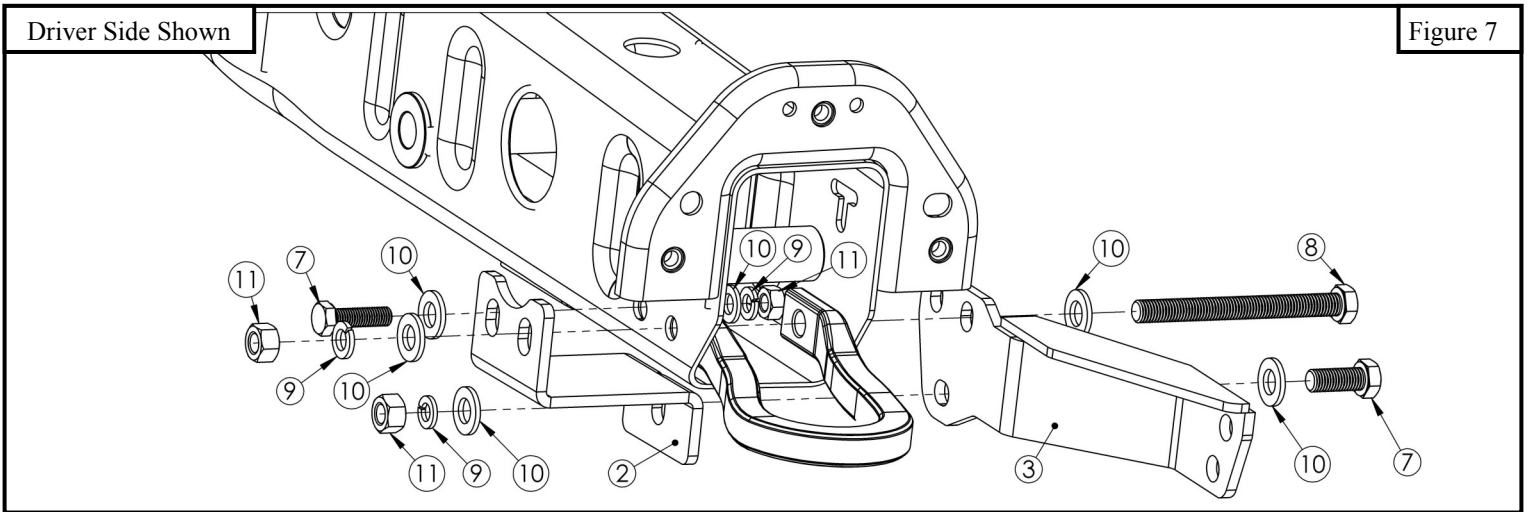

Figure 7
7. Locate (1) Lower Mounting Bracket (Item 3/4) and (1) Lower Support Bracket (Item 2). Loosely attach the Lower Mounting Bracket, Lower Support Bracket, and factory tow hooks to frame rail using the provided hardware: (1) long M12 hex head cap screw, (2) short M12 hex head cap screw (6) M12 flat washers, (3) M12 split lock washers, and (3) M12 hex nuts. **See Figures 7 and 8.** Note: Factory hardware may be re-used on vehicles with factory tow hooks.